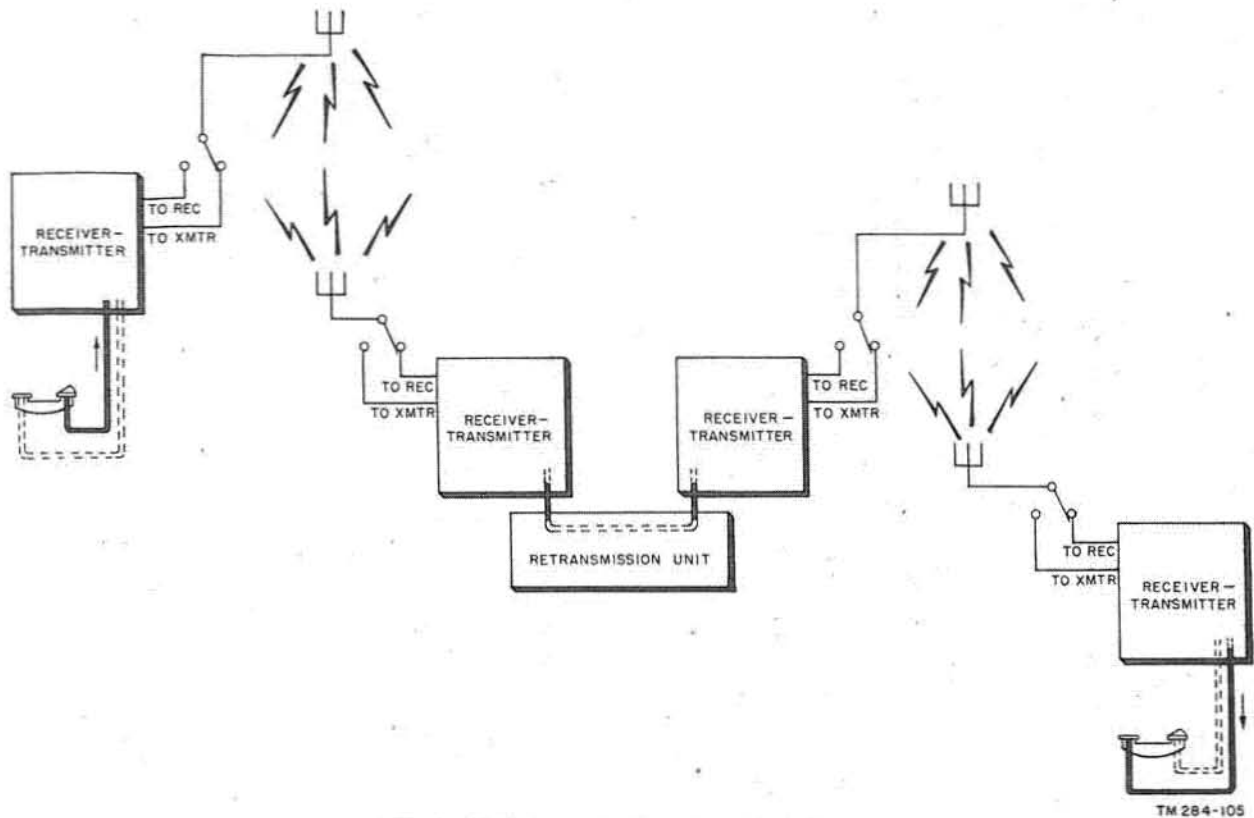

Figure 31. Retransmission system, block diagram.
a. Facilities are provided for retransmission of any received signal. When this facility is used, the radio set acts as a relay or repeater station between two other radio sets (fig. 31). Retransmission facilities are important tactically since they provide a means of extending communication range and, through use of the Set 2 liaison receiver-transmitter, a means of establishing communication between two different tactical units.